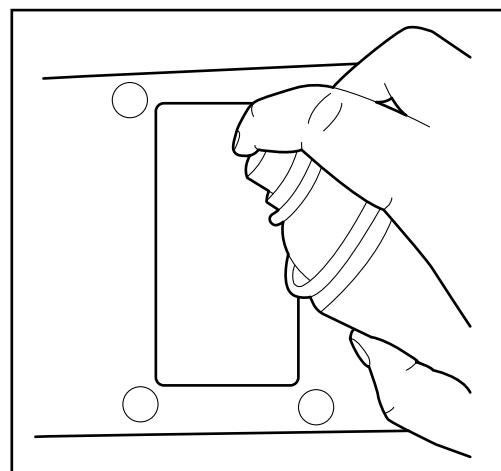

Figure 3.16 Apply lacquer
- Use lacquer, which will make it easier for the polymer to adhere to the print base (fig. 3.16).